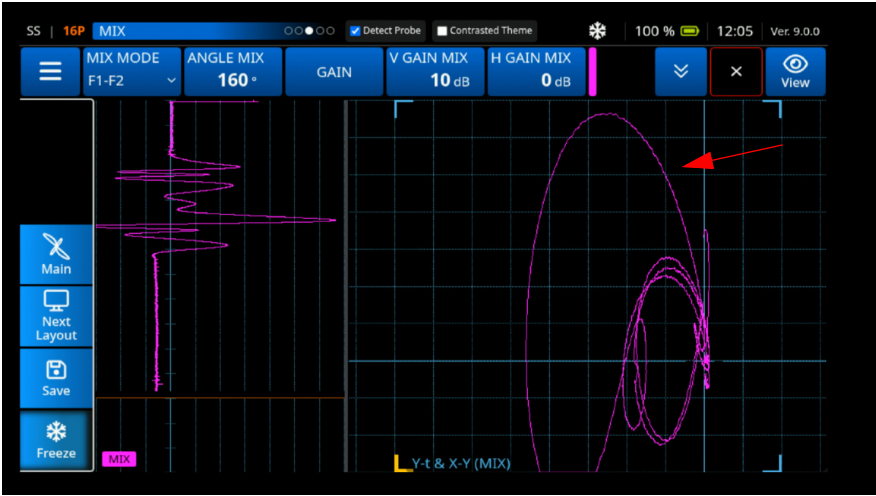

Figure 3-102 Confirm Notch A Amplitude
- 7. Verify that **Notch A** amplitude is close to **7 Vertical** divisions (See Figure 3-102 on page 117).